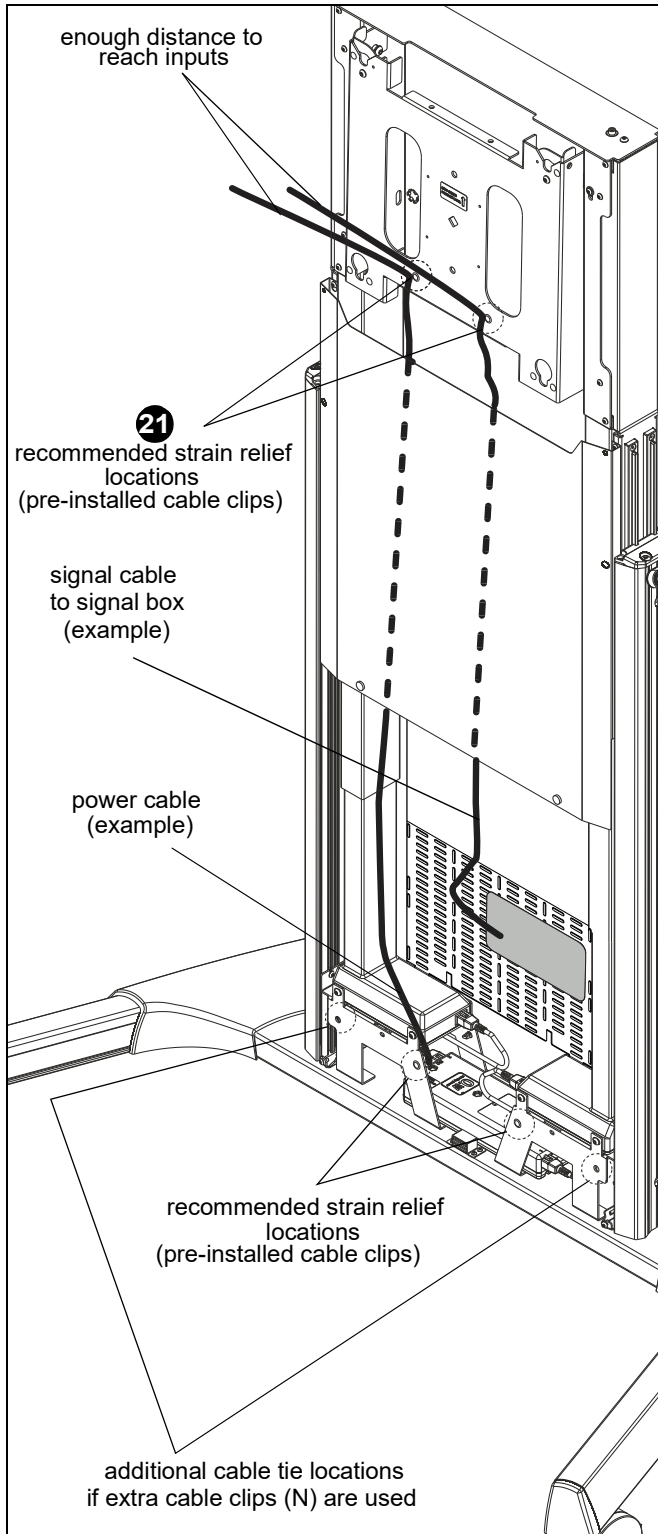

Figure 10
21. Attach display and signal cables to power source. Use cable clips (N) and cable ties (L) to route as necessary. (See Figure 10)